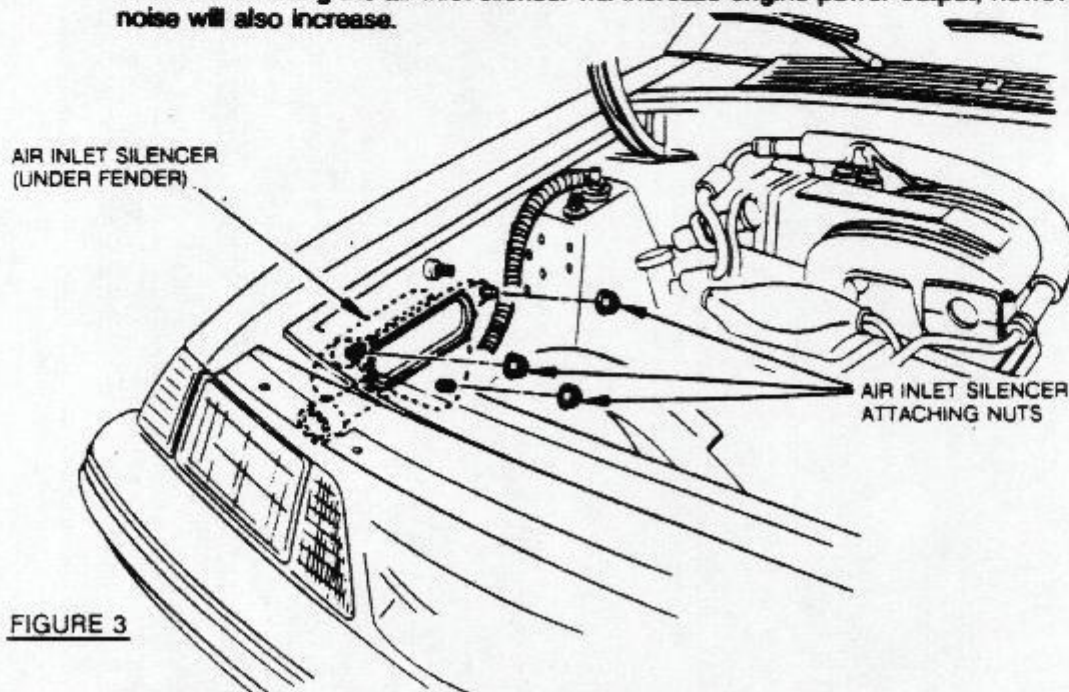

FIGURE 3
STEP 4 Remove the three (3) air inlet silencer attaching nuts. From the underside of the vehicle, carefully remove the air inlet silencer from between the front bumper fascia and the wheel skirt. See figure 3.